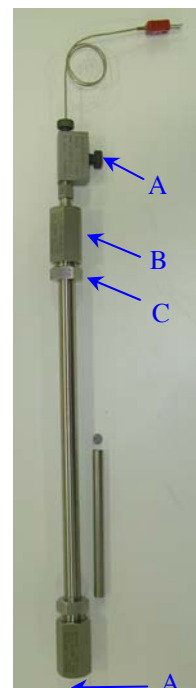

Figure 6-1
3. Using a spanner, release the reactor at connections “A” (see Figure 6-1).